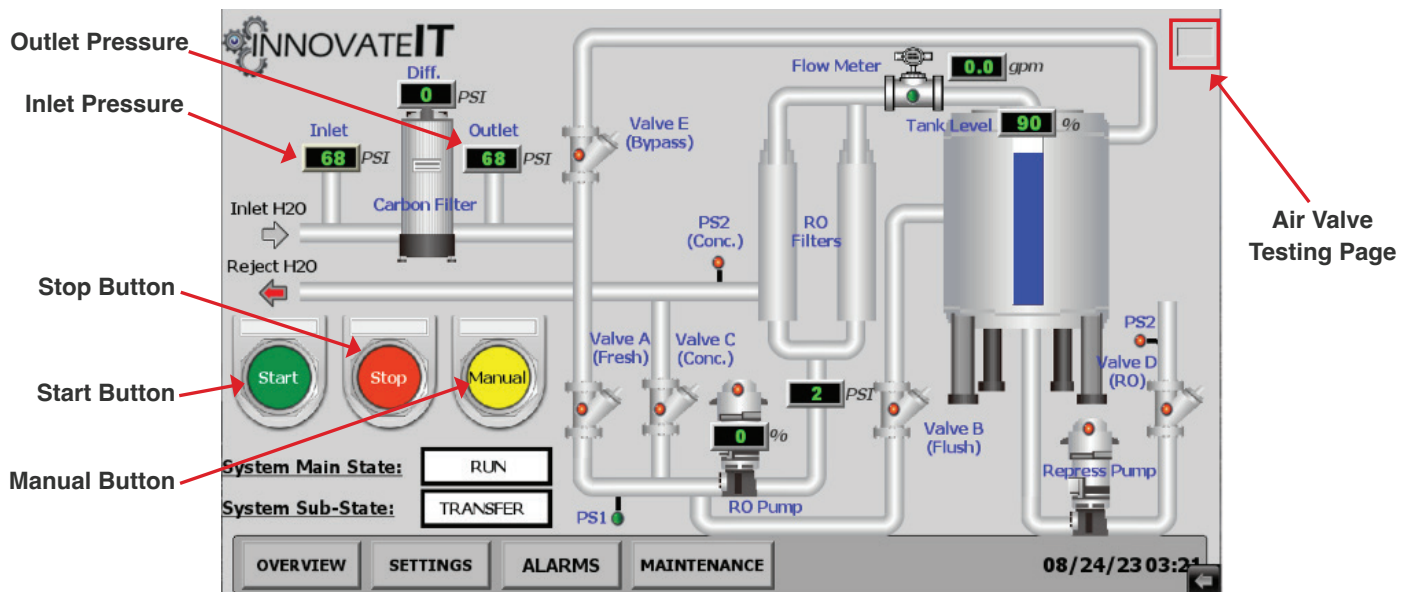

Fig. 4.1.3 - 1 - HMI Overview Screen and Air Valve Testing Page location
2. Navigate to the **AIR VALVE TESTING PAGE** (see Fig. 4.1.3 - 1) by pressing the square in the upper right corner of the HMI.
3. Open Valve A and Valve C to allow water to flow to the Production Pump and through the membranes (Fig. 4.1.3 - 2)